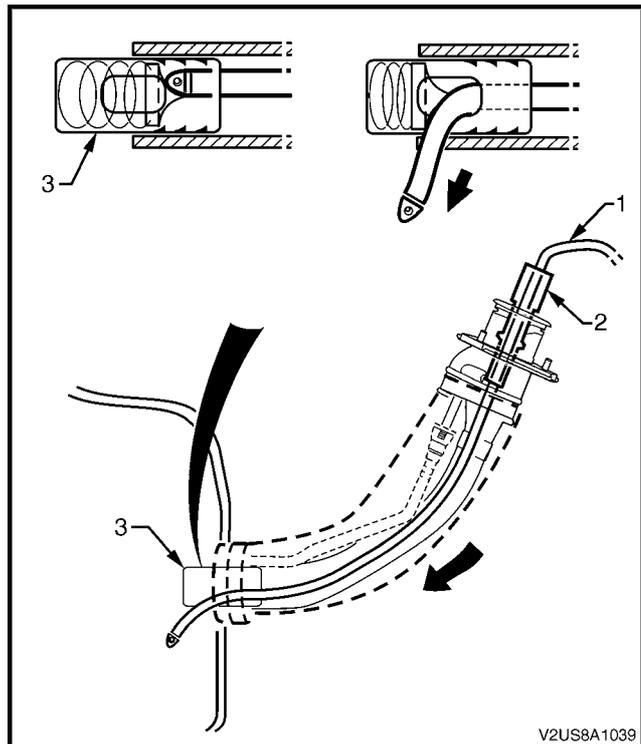

Figure 8A1 - 111
If fuel does not siphon from the fuel tank, the fuel siphon hose may have entered the fuel tank through a roof-facing check valve opening. If required, insert the J45004-1 fuel siphon hose (1) into the fuel tank filler neck, refer to Figure 8A1 - 111, but twist the fuel siphon hose 90° as it slides down the filler neck. This enables the fuel siphon hose to enter the fuel tank through a floor-facing check valve opening.